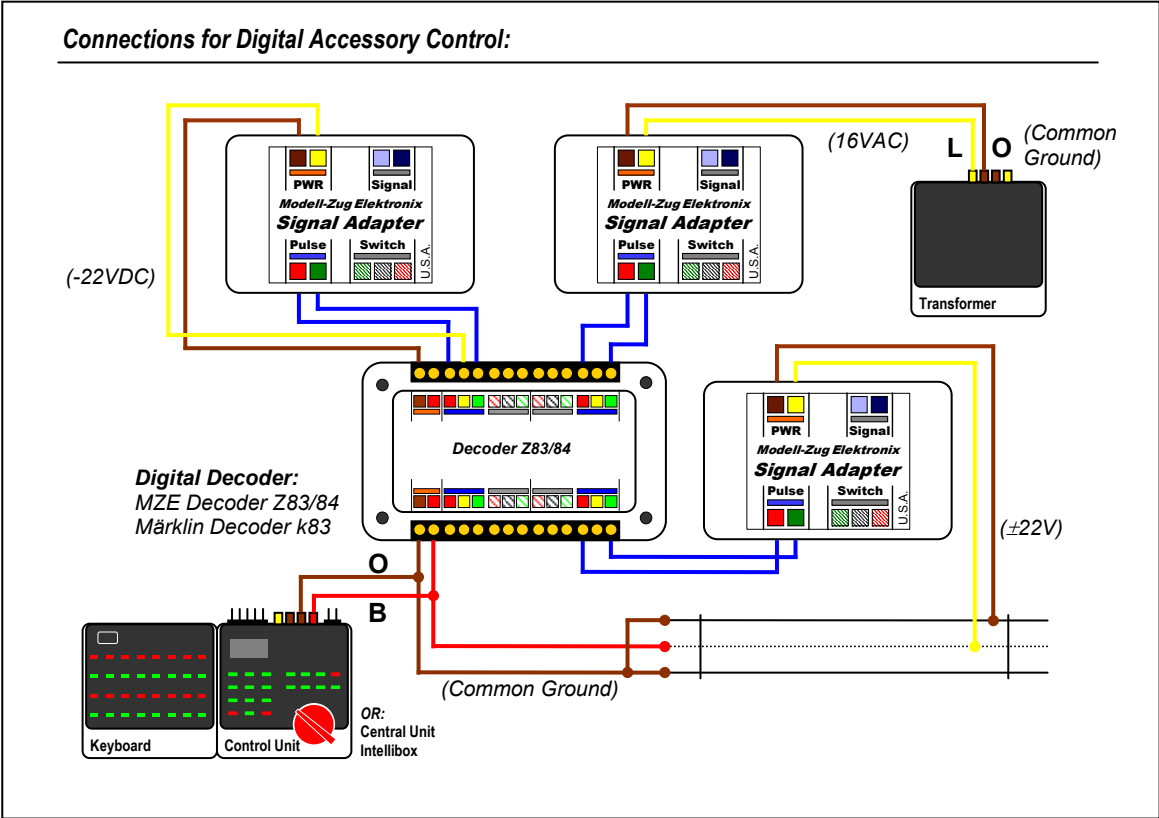

Figure 2. Input Connections – Digital Control
- 1a) If the *Signal Adapter* is to be controlled by a digital accessory decoder, the Pulse and Power Inputs may be connected in any of the three configurations shown in Figure 2 below. (Note: A conventional Märklin signal **can not** be separately powered by 16VAC or the digital track power while being controlled by a digital accessory decoder as shown in Figure 2. The *Signal Adapter* is different in that it uses a negatively powered DC relay, so that it will not damage the accessory decoder outputs when it is powered by 16VAC or digital track power.)